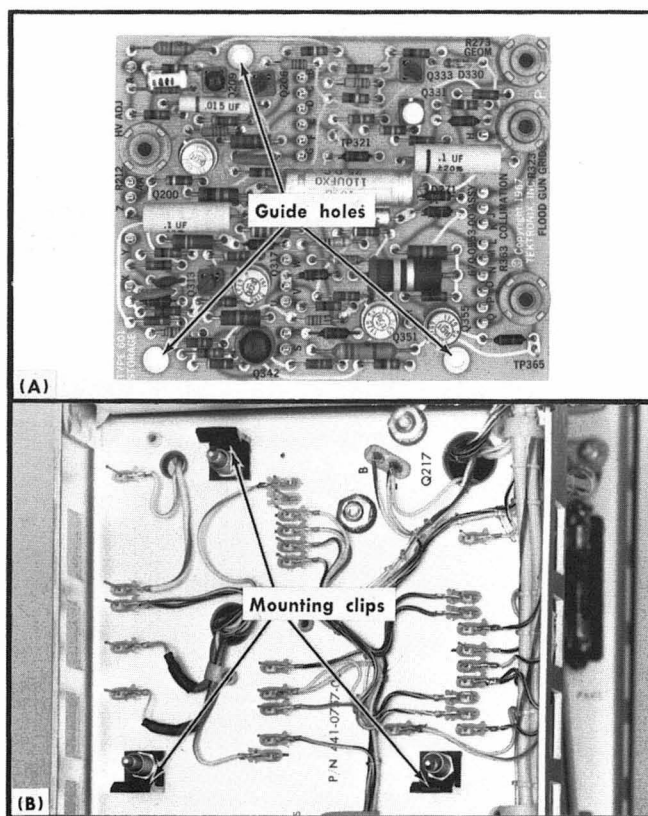

Fig.4-5. (A) Circuit board guide holes and (B) chassis guide pins.
**Circuit Board Replacement.** Position the circuit board guide holes over the guide pins (Fig. 4-5). Be sure that the connecting pins on the chassis are straight and aligned properly with the connectors on the circuit board. Press straight down on the circuit board, as close as possible to the guide holes. Push downward until the board edge snaps into place in the plastic clips.